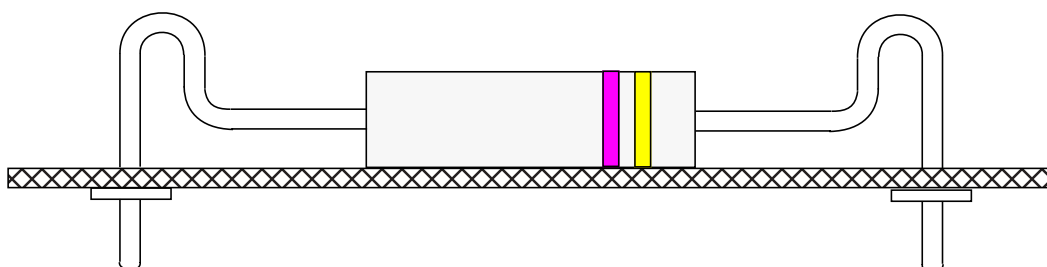

Figure 2 - Stress Relief Mounting
- 5.4.4 For stress relief mounting of components with axial leads, form the component leads approximately as shown in Figure 2 and mount the component body flush to the board surface within 1/32", approximately centred between the holes.